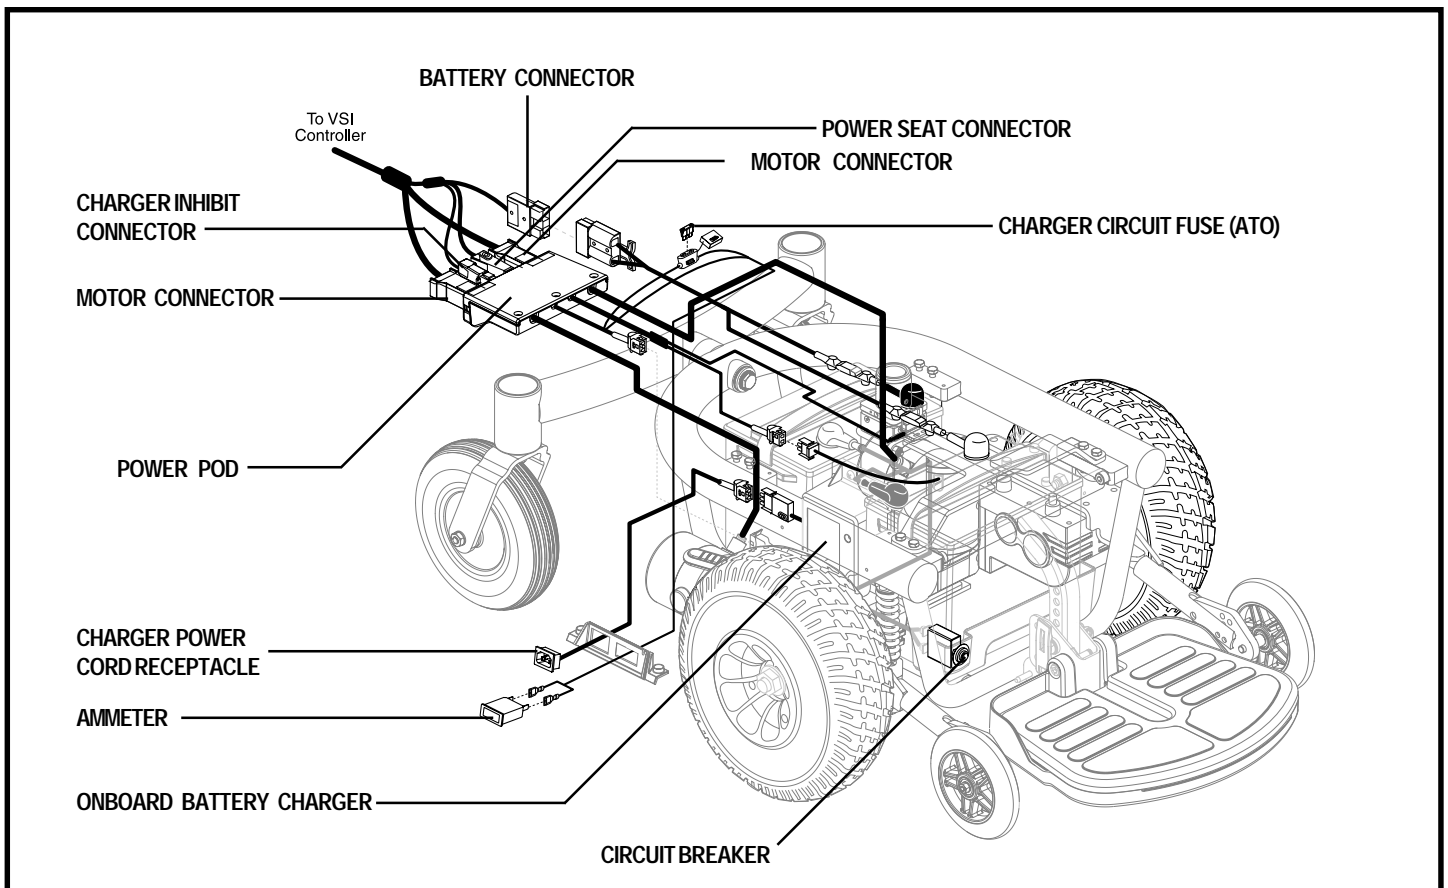

Figure 7. Jazzy 1103 Ultra Electrical Components
The electrical components are located on the power base. The ammeter and the charger power cord receptacle are located on the right side of the power base. The main circuit breaker is located on the front of the battery tray. The controller connector and the motor connectors are located on the power pod, inside the power base. See figure 7.
8. Plug the controller connectors into the power pod and connect the battery connector. See figure 7.
3. Disconnect the controller connectors from the power pod. See figure 7.